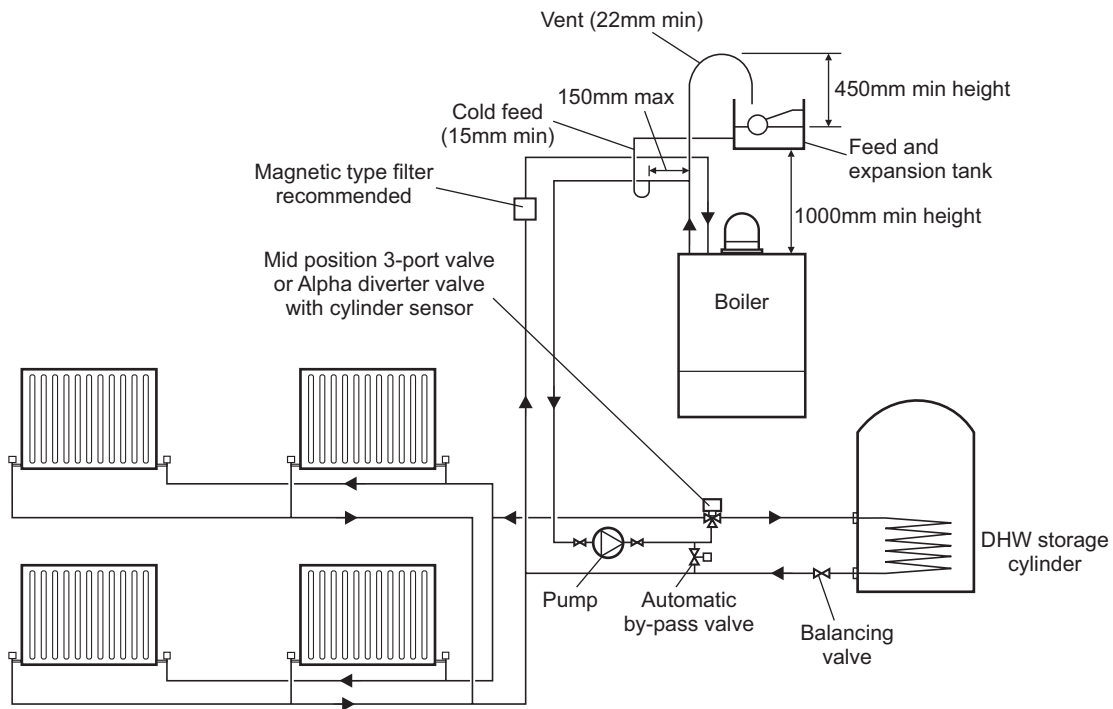

Fig. 4.5 - Open system with Y-Plan
4.7 CENTRAL HEATING SYSTEM - Figs. 4.5 and 4.6
It is important that the relative positions of the pump, cold feed and open vents are as shown in Fig. 4.5.
The system design pressure (cold) should be set to 1.0 bar. This pressure is equivalent to a static head (see Fig. 4.5) of 10.2 metres of water.